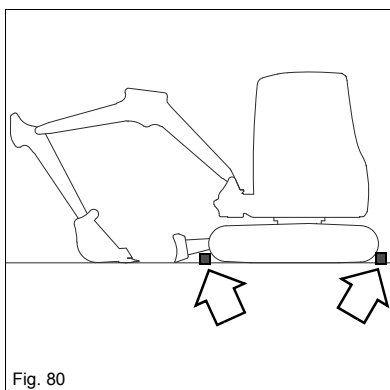

Fig. 80
9. Secure the tracks accordingly (for example with chocks, blocks) as shown in Fig. 80.